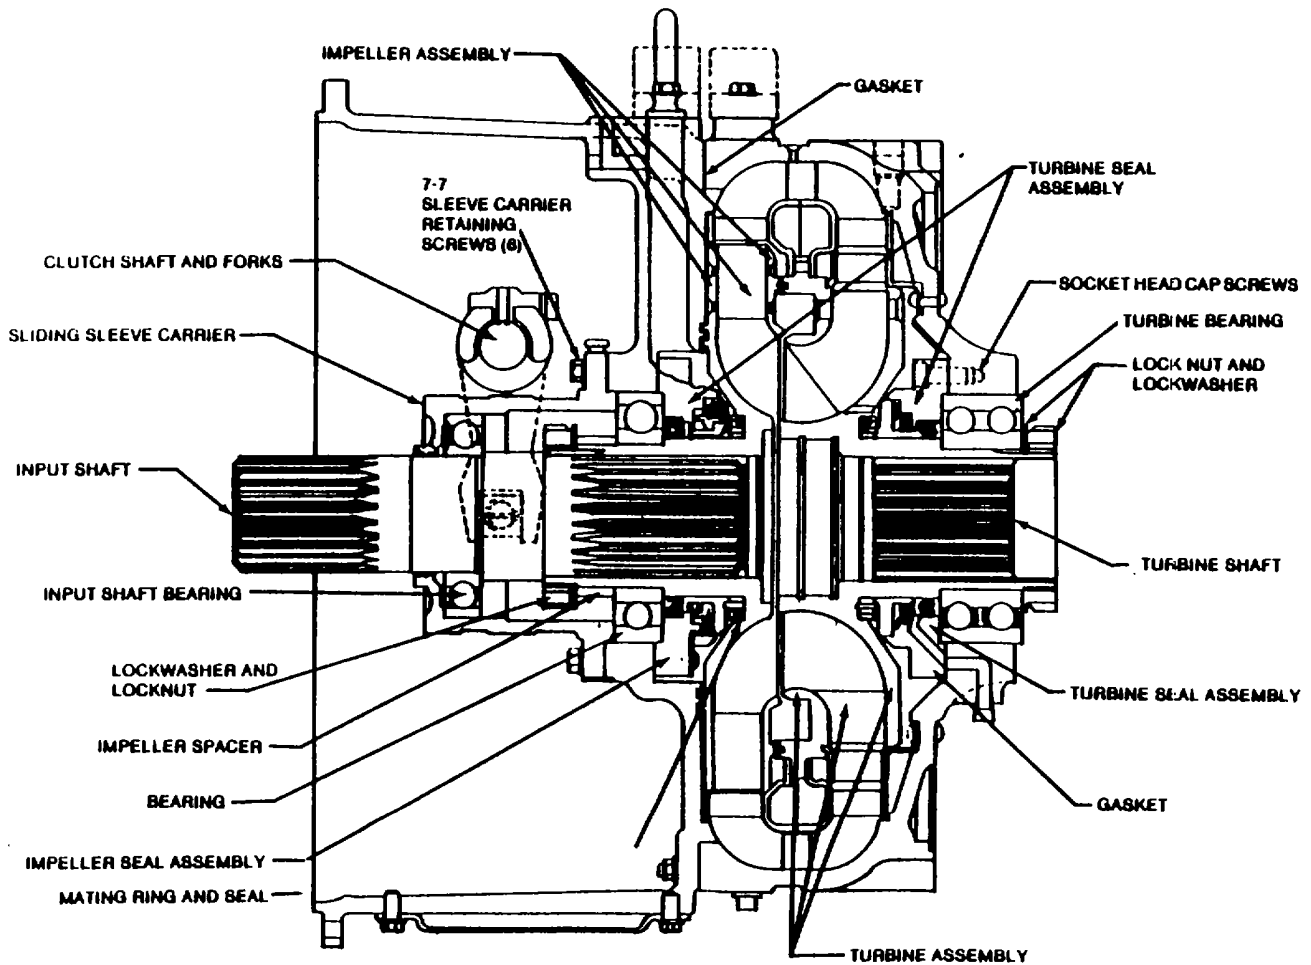

Figure 6-34. Torque Converter Assembly.
g. Refer to Figure 6-34 and disassemble Impeller Assembly as follows:
(1) Press input shaft and shaft bearing out of sliding sleeve carrier.
(2) Remove impeller locknut, lockwasher, and spacer.
(3) Press impeller out of impeller bearing
(4) Remove six socket head capscrews retaining seal carrier to endplate and remove seal assembly.